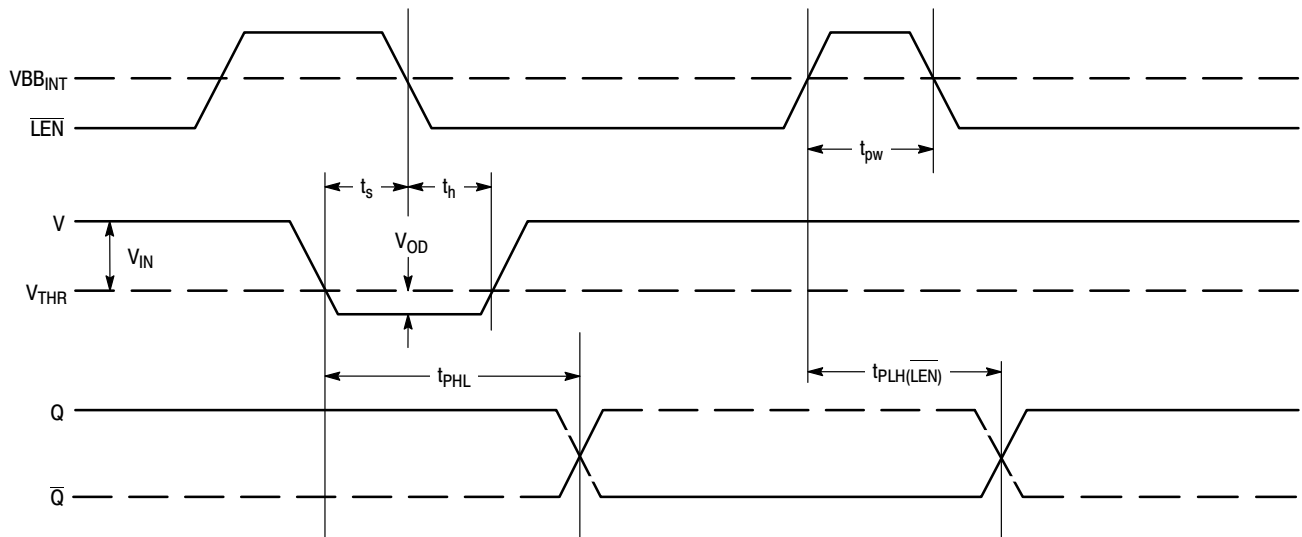

Figure 5. Input/Output Timing Diagram
13. Refer to Figure 5 and note that the input is at 2.5 V TTL levels with the input threshold range between the 20% and 80% points. The delay is measured from the crosspoint of the input signal and the threshold value to the crosspoint of the Q and  $\bar{Q}$  output signals.
The timing diagram (Figure 5.) is presented to illustrate the MC10E1652's compare and latch features. When the signal on the  $\overline{\text{LEN}}$  pin is at a logic high level, the device is operating in the "compare mode," and the signal on the input arrives at the output after a nominal propagation delay ( $t_{\text{PHL}}$ ,  $t_{\text{PLH}}$ ). The input signal must be asserted for a time,  $t_s$ , prior to the negative going transition on  $\overline{\text{LEN}}$  and held for a time,  $t_h$ , after the  $\overline{\text{LEN}}$  transition. After time  $t_h$ , the latch is operating in the "latch mode," thus transitions on the input do not appear at the output. The device continues to operate in the "latch mode" until the latch is asserted once again. Moreover, the  $\overline{\text{LEN}}$  pulse must meet the minimum pulse width ( $t_{\text{pw}}$ ) requirement to effect the correct input-output relationship. Note that the  $\overline{\text{LEN}}$  waveform in Figure 5. shows the  $\overline{\text{LEN}}$  signal swinging around a reference labeled  $\text{VBB}_{\text{INT}}$ ; this waveform emphasizes the requirement that  $\overline{\text{LEN}}$  follow typical ECL 10KH logic levels because